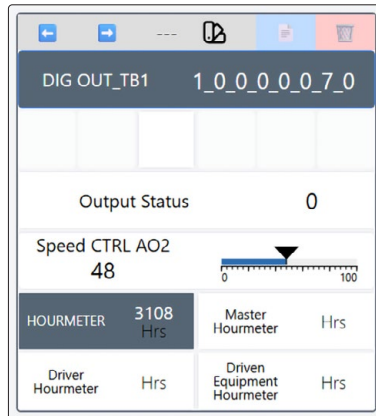

Figure 30
2. Press the **Delete** key on your keyboard to delete the element. In *Figure 30*, the **DIG OUT_TB2** element has been deleted.